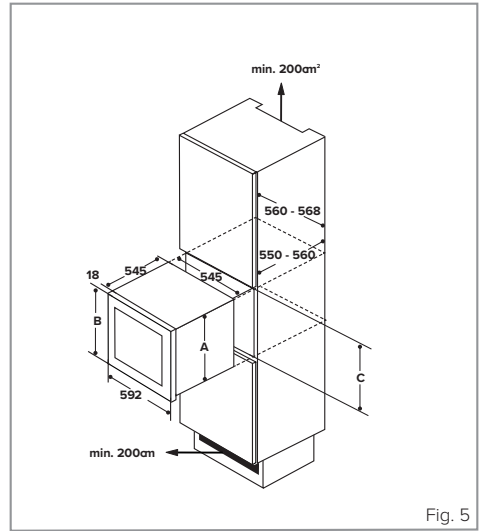

Fig. 5
**\*If installing an FWV601 next to an oven or compact, then both appliances must have their own individual and independent ventilation system (as per fig. 5).**